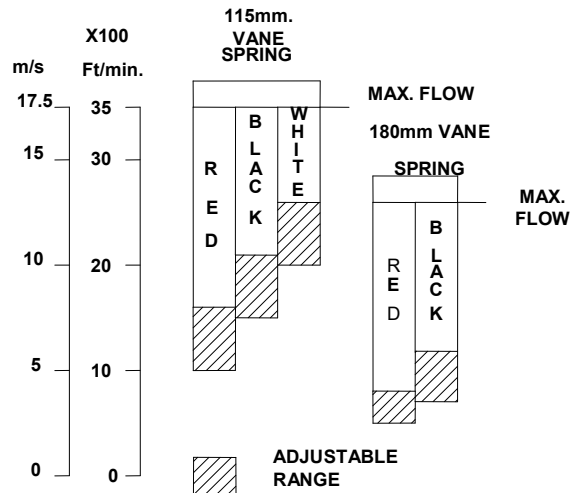

Fig. 3
Fig 3 gives an indication of flow rates covered by the 2 vane sizes. Reference to this will help select which vane to fit before setting.
4. Alternative springs are supplied to cover the full range of operation from 2.5 to 12.5 metres/second (fig 3). These may be used singly or in pairs as the user desires, provided the lowest setting is sufficient to return the vane safely on no flow. Each spring may be adjusted via an M4 hexagon screw, rotating clockwise to increase tension and thus reducing flow sensitivity.